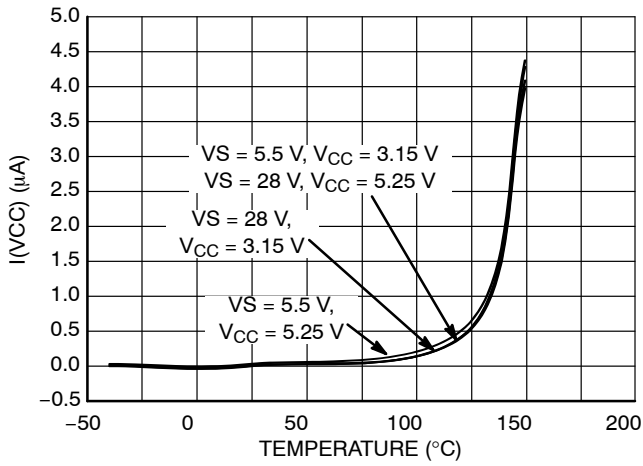

Figure 16. I(VCC) vs. Temperature
- Refer to Figure 16 for the  $V_{CC}$  standby current behavior.